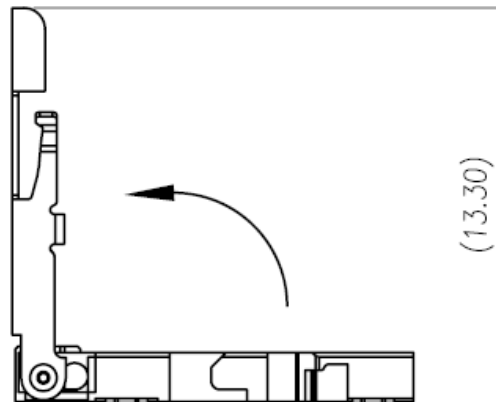

Figure 2-3
1. Find the micro SD card slot and open slot according to the direction shown in Figure 2-3.